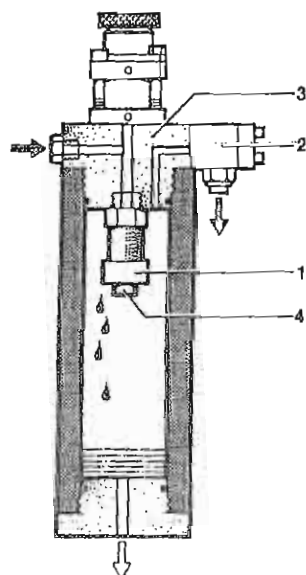

Fig. 9 Oil and water separator
The air leaving the final stage is cooled in the after-cooler to approx. 10 to 15 °C (18-27 °F) above ambient temperature and then enters the oil and water separator (Fig. 9). The oil and water separator works by means of a sintered filter micro-cartridge (1), reliably separating liquid oil and water particles from the compressed air.